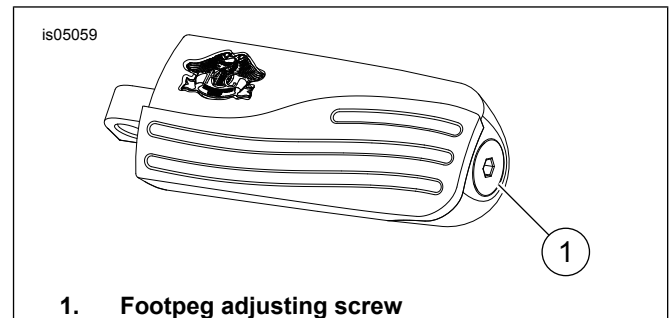

Figure 1. Footpeg Adjusting Screw
4. See Figure 1. For each footpeg, loosen the adjusting screw in the recessed hole until the footpeg rotates. Position the footpeg as desired, then tighten the adjusting screw to 29 N·m (21 ft-lbs)